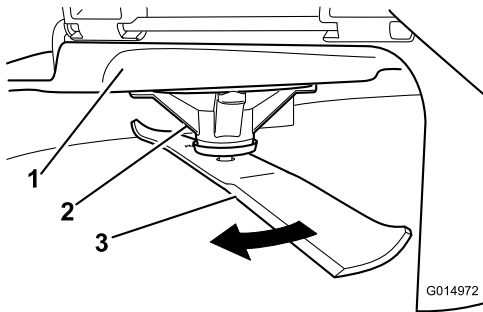

**Figure 97**
2. While wearing thickly padded gloves, or other adequate hand protection, slowly rotate the blade into a position that allows you to measure the distance between the cutting edge and the level surface the machine is on (Figure 97).